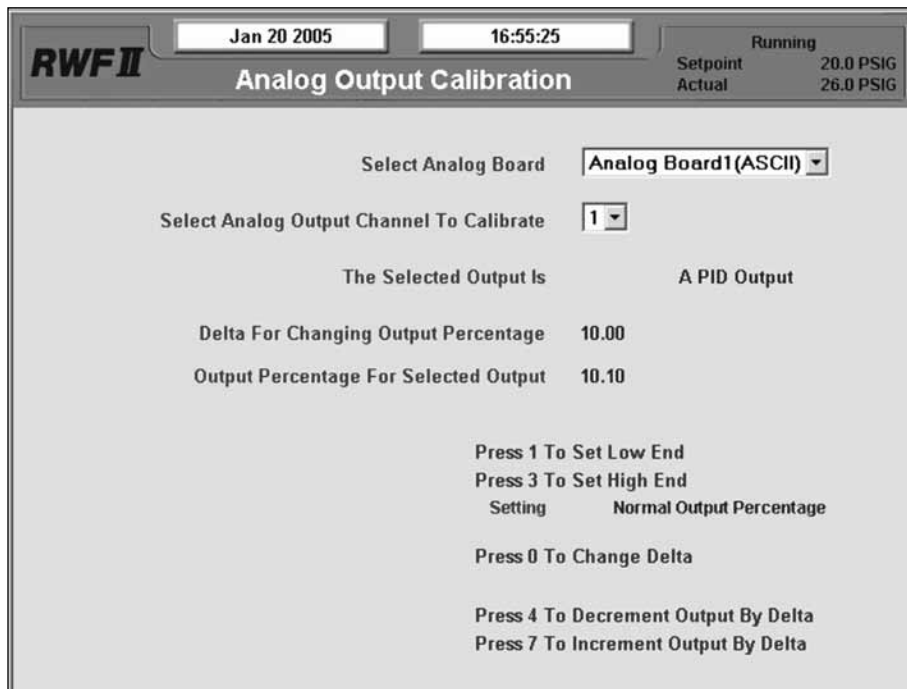

Figure 19
- Set operating session to Session 2 and go to the screen shown in Figure 19 by pressing **[Menu] > [Calibration] > [Analog Outputs] > [Output Calibration]**.